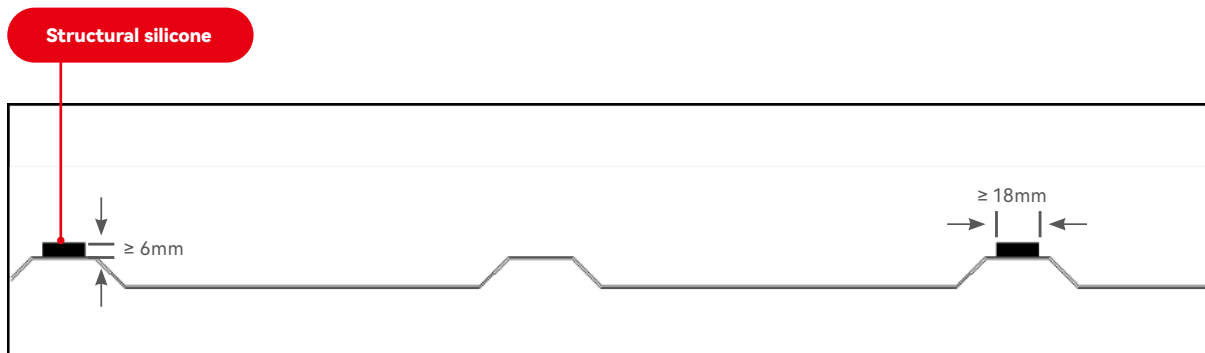

FIGURE 4
- The cross-section of the structural adhesive should be a semi-circular shape with a width of more than 18mm and a height of more than 6mm. (Figure 4)